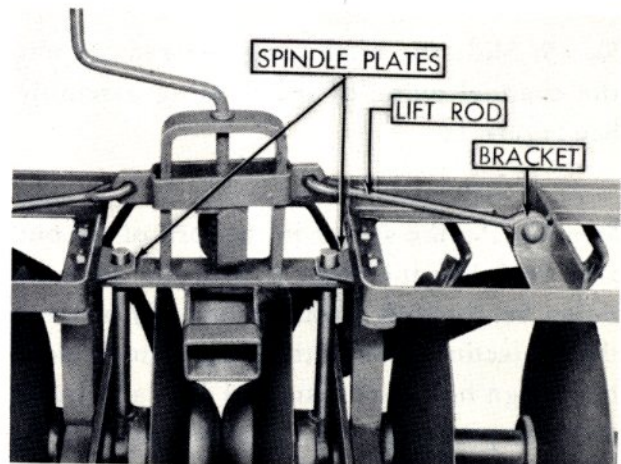

Figure 9
Step 7: Place the spindle plates over the ends of the spindles and secure with bolts to the gang frame as shown in Figure 9.
Step 8: Fasten lift rods to brackets on front gang weight boxes with pins and cotter pins. See Figure 9.